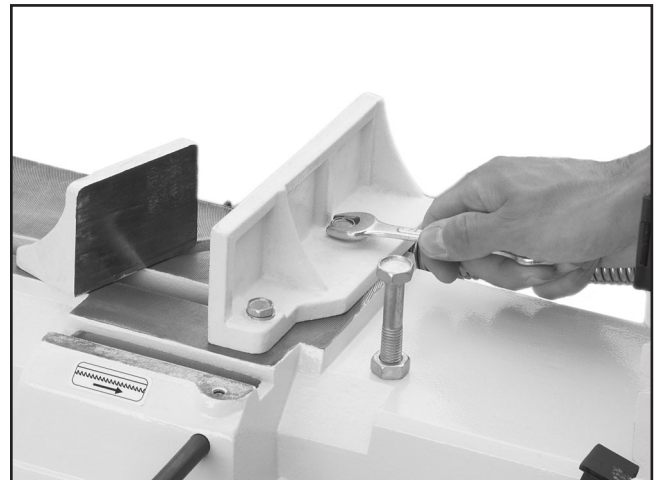

Figure 22. Setting vise angle.
1. Loosen the lock nut with a 12mm hex wrench or socket as shown in **Figure 22**.